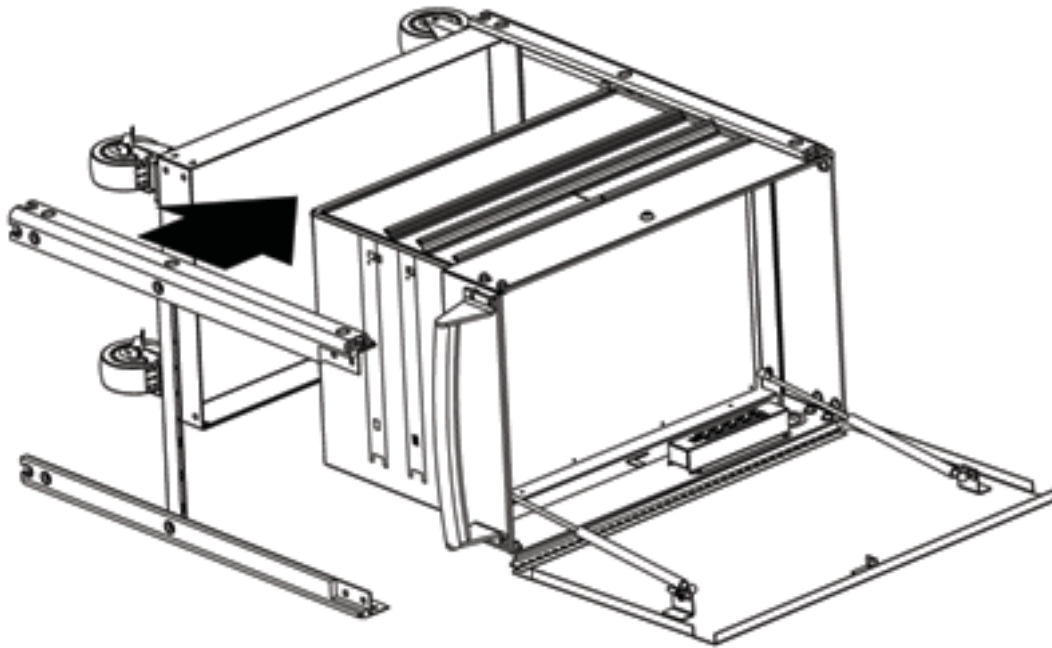

Figure 3
- 4) Attach the leg/bumper assembly to each side of the cart, aligning the cutout section of the plastic bumper so the bolts fit the top of the cart. Leave bolts loose to allow for attachment of the tray in the next step. (See figure 3).